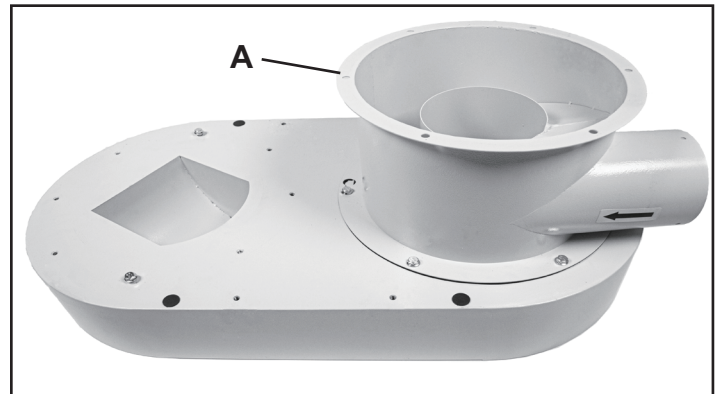

FIG. 5
**NOTE:** Assistance may be required for this step. If attempting installation alone, remove the Cyclonic Separator (A-Fig. 5) from the Dust Plenum before lifting onto the Support Panel assembly. FIGS. 5 & 6.
**NOTE:** This step is only necessary if the Cyclonic Separator was removed for the installation of the Dust Plenum to the Support Panel Assembly, page 10, Fig. 5.